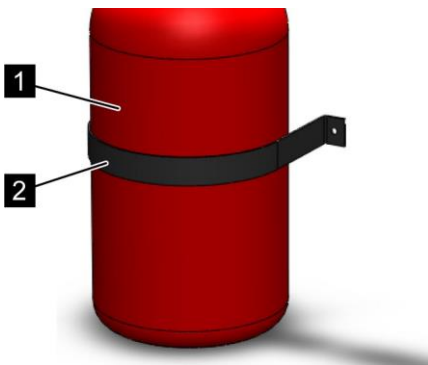

Fig. 59: Mounting extinguishing agent containers
2. ➤ Fasten extinguishing agent containers (Fig. 59/1) vertically on a wall or other structural elements with a clamp (Fig. 59/2).